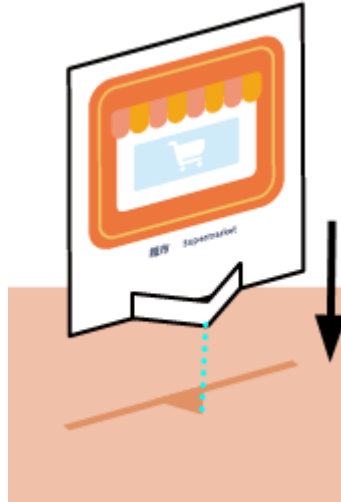

Figure 5.2 Placing of guide sign
- Guide signs must be placed in the same direction as  (sharp corner), as shown in Figure 5.2.